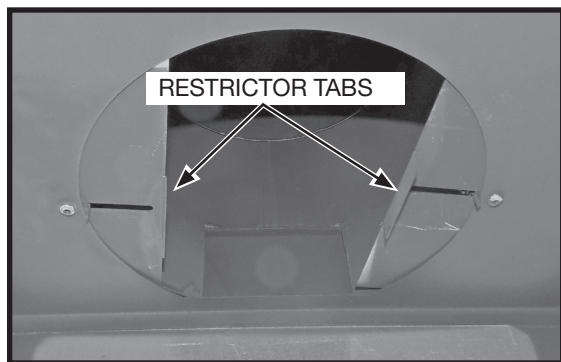

Figure 52: Vent restrictor tabs in typical position.
2. Before inserting the back panel into the firebox, move the restrictor plates out (Figure 52) so that the top part of the panel will be able to clear the tabs when being tilted into place.